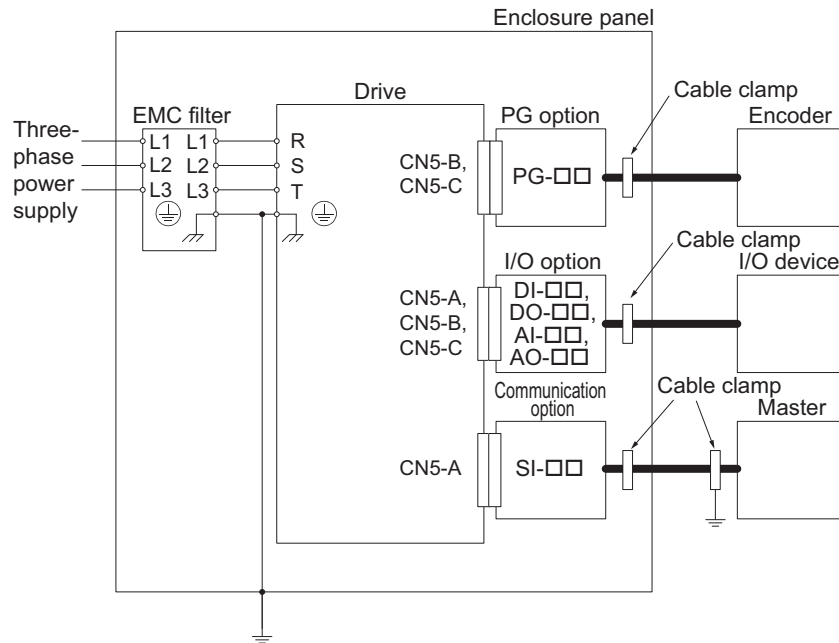

Figure 30 Option Installation for CE Compliance
2. Keep wiring as short as possible and ground the largest possible surface area of the shield to the metal panel according to Figure 30.